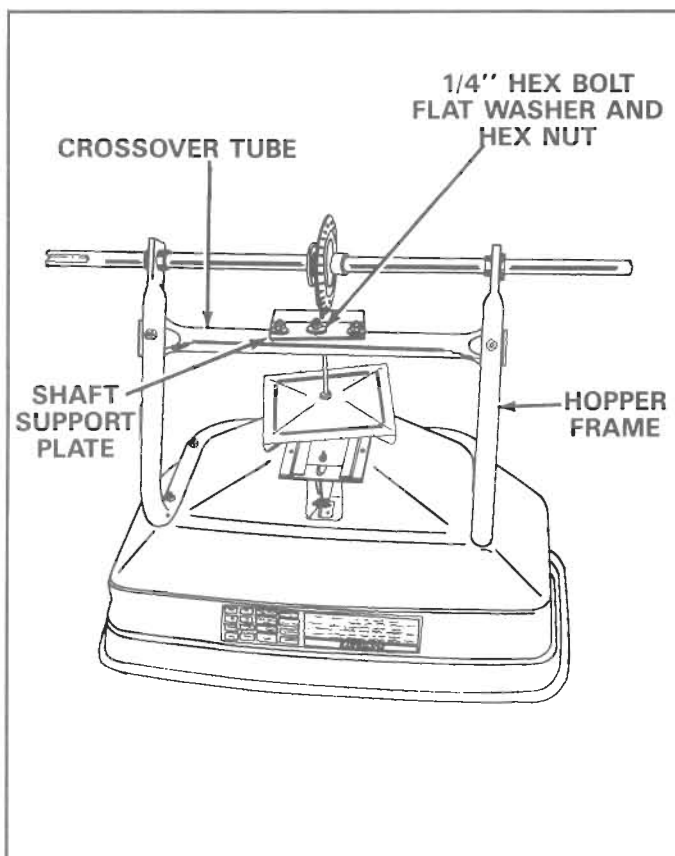

FIGURE 3
2. Turn the spreader upside down as shown in figure 3, so that it rests on the hopper.
3. Remove the 1/4" hex bolt, flat washer and hex lock nut from the center of the crossover tube and shaft support plate. See figure 3.
5. Place the hitch tube up against the crossover tube, align the holes in hitch tube, crossover tube and shaft support plate, assemble with 1/4" hex bolt, flat washer and 1/4" hex lock nut, removed in step 3. See figures 3 and 4. **MAKE ONLY FINGER TIGHT AT THIS TIME.**